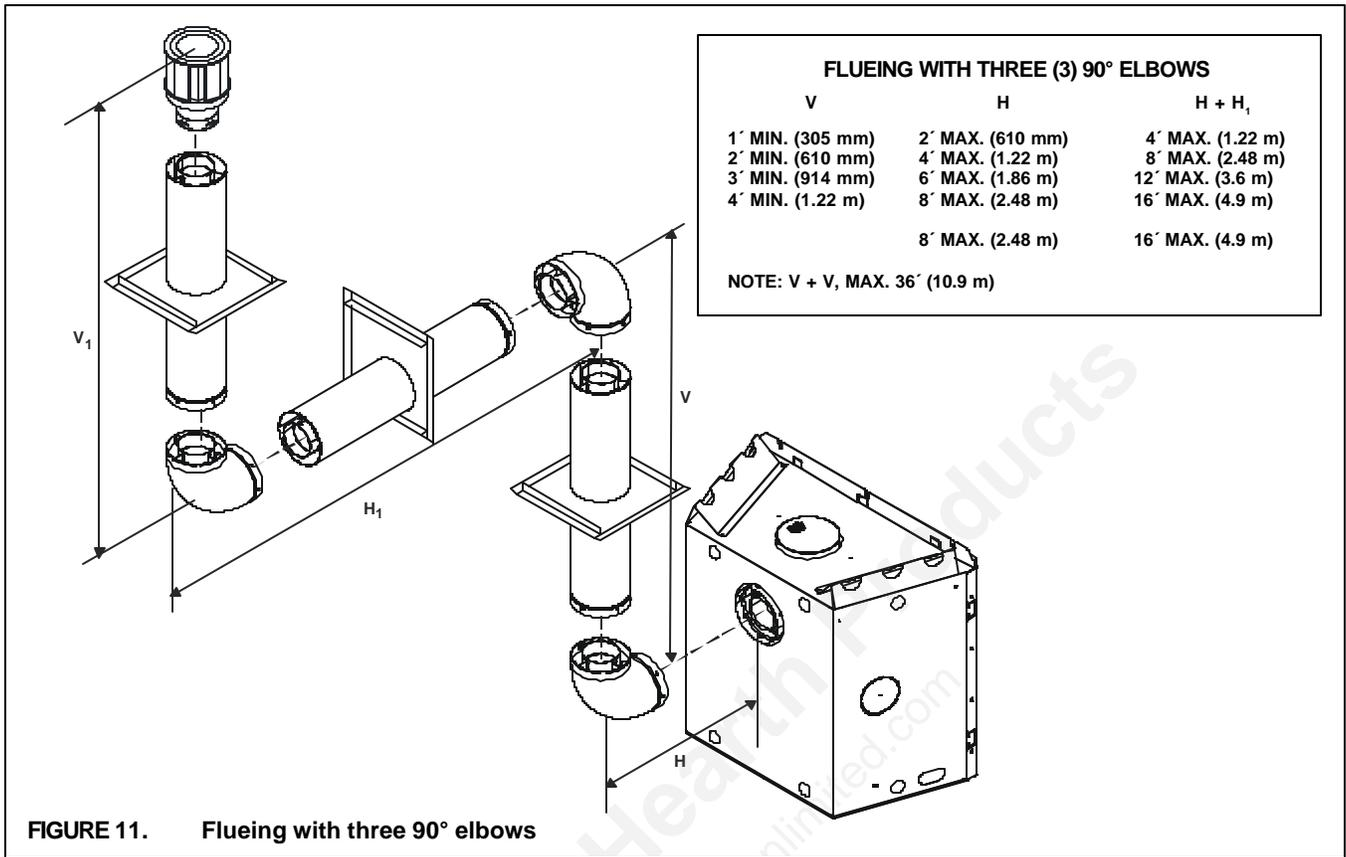

FIGURE 11. Flueing with three 90° elbows
Figures 11 through 13 show examples of possible installations using three (3) 90-degree elbows.